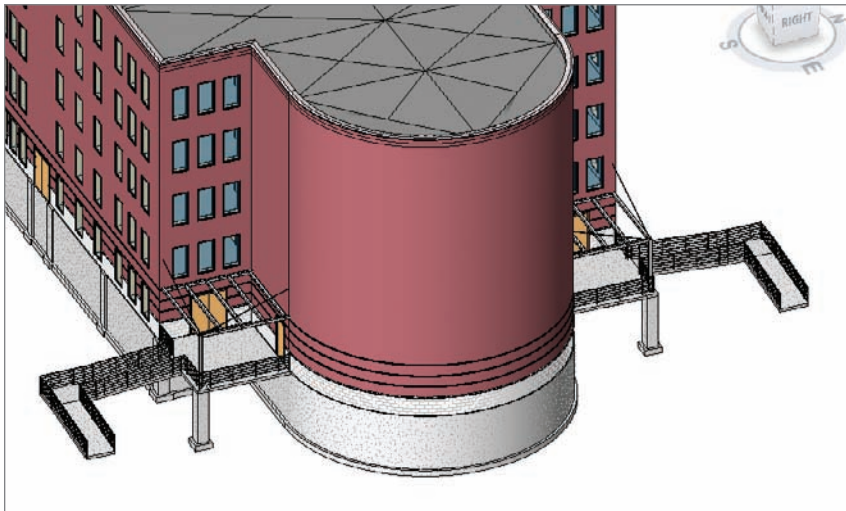

FIGURE 10.88 The two ramps
6. Mirror the slab, the ramp, and the railing to the other side of the building as shown in Figure 10.88.